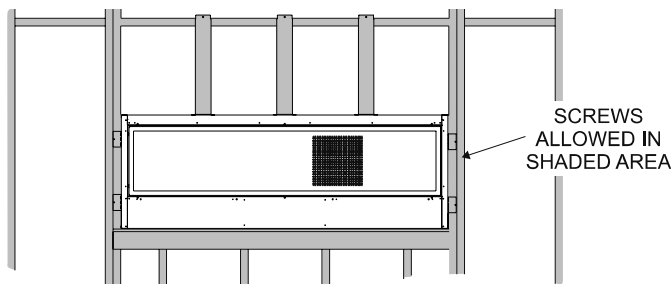

Figure 41
- Screws are allowed in framing and top mounting brackets. No screws are allowed into the fireplace. **See Figure 41.**